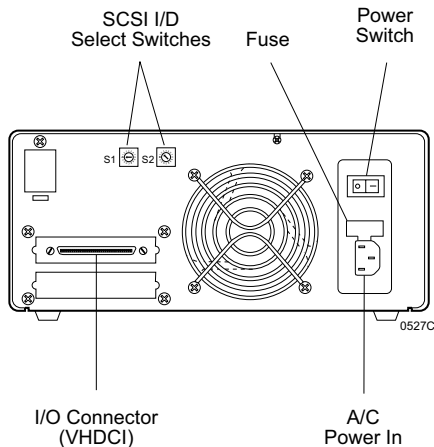

Figure 4: DS100 Rear Panel
(Figure 4)
5. **SCSI ID Cable** - Each DS100 is supplied with one SCSI ID select cable per drive bay. The ID cable permits external unit ID selection via a small switch located on the rear panel of the DS100 (Figure 4). One end of this cable attaches to the drive SCSI ID pins and the other end attaches to the DS100 unit ID select switch. The cable is designed to connect to drives with 2mm ID select pins.